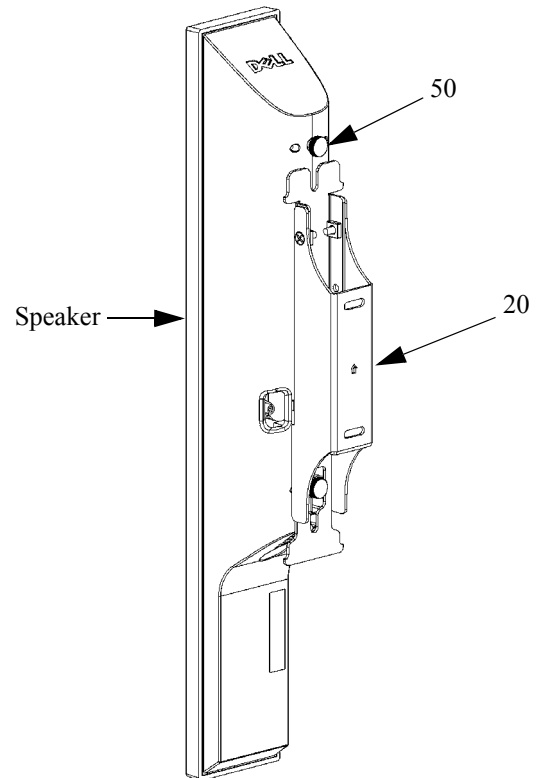

Figure 16. Loosen Two Thumb Screws to Remove Speaker
1. While holding the speaker with one hand, remove the two thumb screws (50) and O-rings (110, not shown) that attach the speaker to the wall bracket (20). See Figure 16.